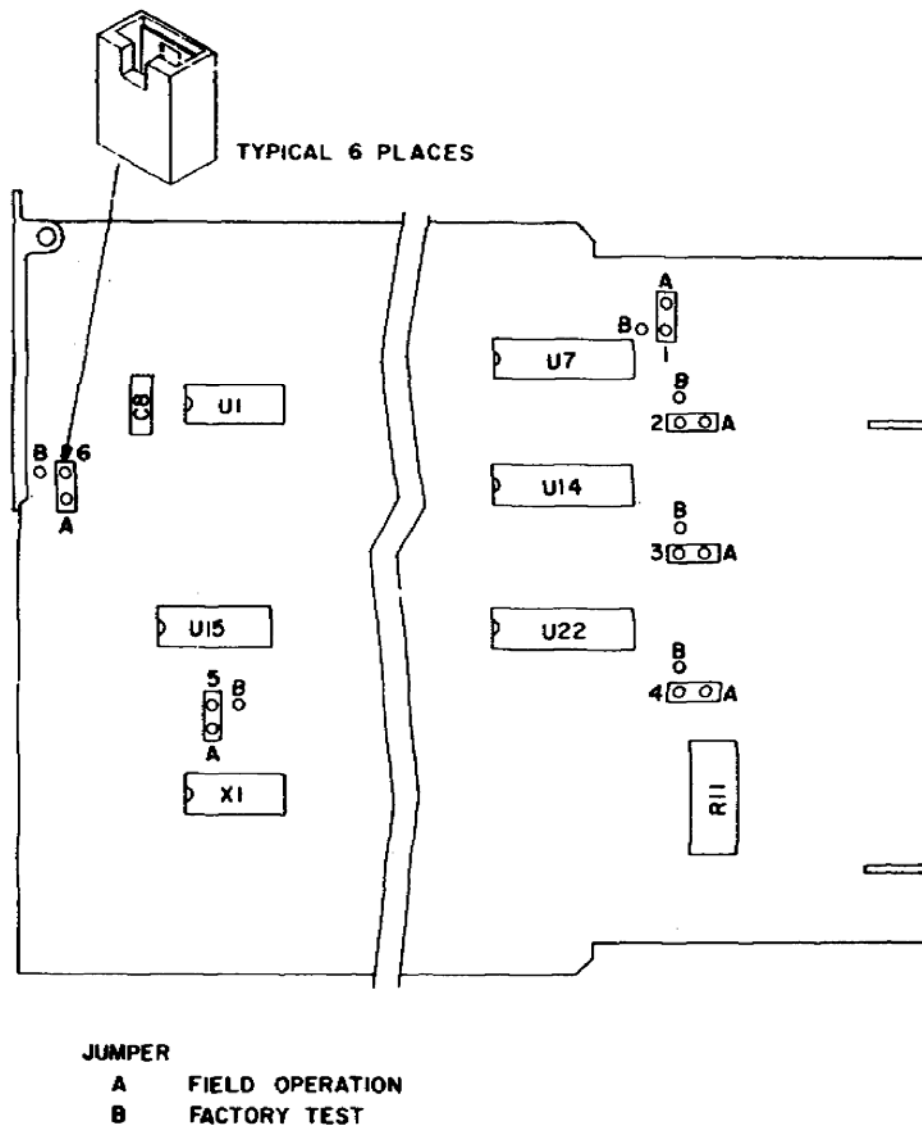

Figure 12. Shared Logic Module (A12) Strapping Options.
- (1) Turn off power.
- (2) Remove the shared logic module (A12).
- (3) Move jumper strap 6 to B (see figure 12).